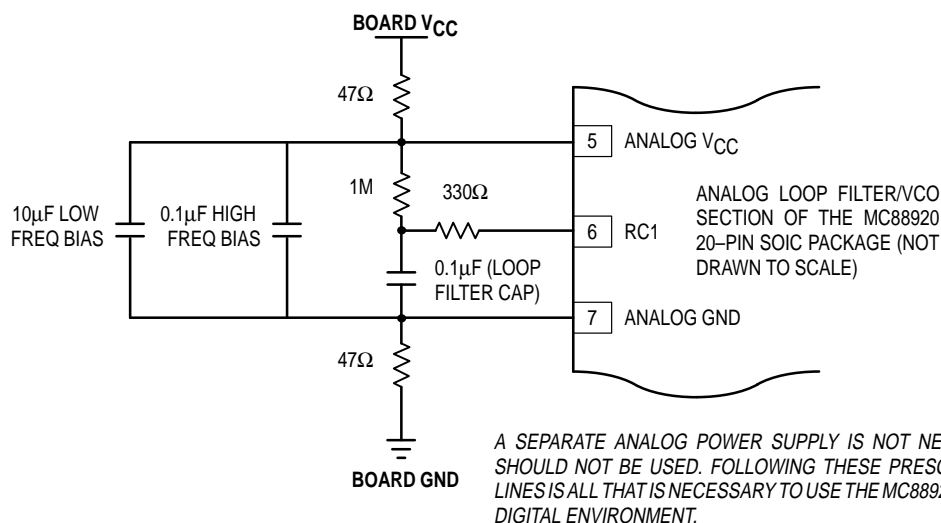

Figure 7. Recommended Loop Filter and Analog Isolation Scheme for the MC88920
- Figure 7 shows a loop filter and analog isolation scheme which will be effective in most applications. The following guidelines should be followed to ensure stable and jitter-free operation:
purpose of the bypass filtering scheme shown in Figure 7 is to give the 88920 additional protection from the power supply and ground plane transients that can occur in a high frequency, high speed digital system.
- In addition to the bypass capacitors used in the analog filter of Figure 7, there should be a 0.1 μF bypass capacitor between each of the other (digital) four V_{CC} pins and the board ground plane. This will reduce output switching noise caused by the 88920 outputs, in addition to reducing potential for noise in the 'analog' section of the chip. These bypass capacitors should also be tied as close to the 88920 package as possible.